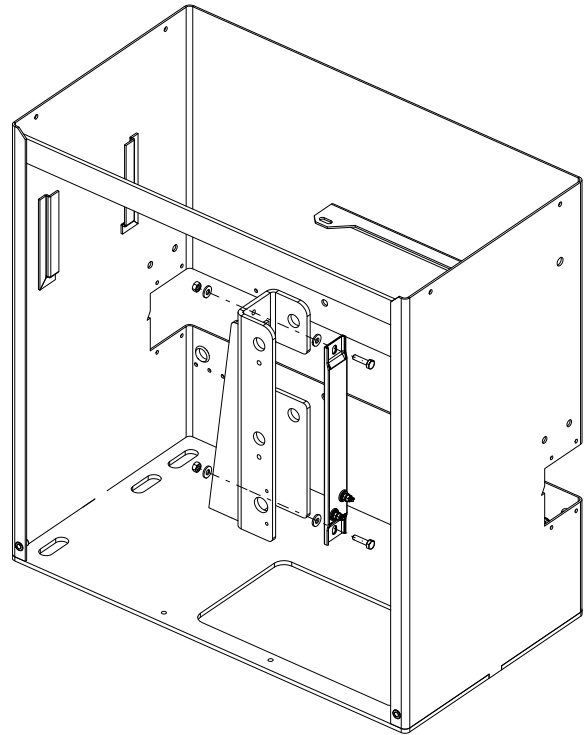

Figure 7. Install Heater Strip
9. Install the heater strip vertically in the drive post with the terminals down and facing out with the  $\frac{1}{4}$ -20 x 1 in bolts (Figure 7).